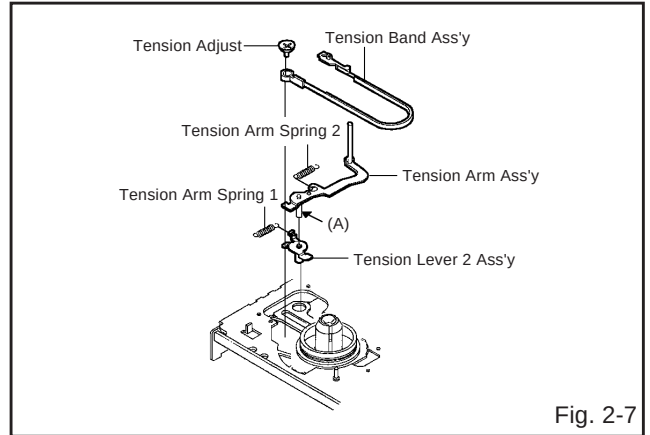

Fig. 2-7
2-7: TENSION BAND (Refer to Fig. 2-7)
2. Oil the area marked with A in Fig. 2-7.